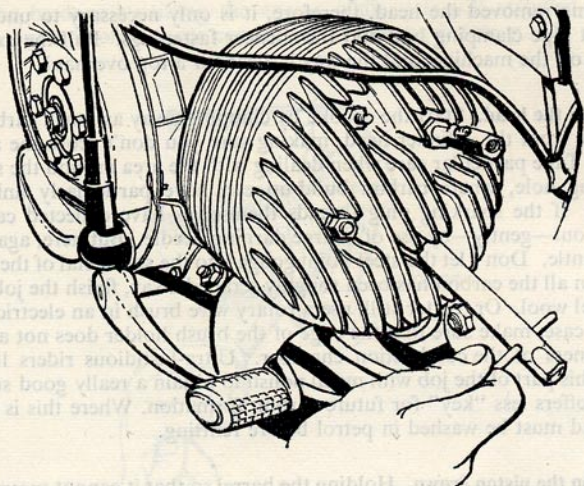

FIG. 19. HOW TO DECARBONIZE, 1
**Removing the cylinder head.** Four nuts hold the cylinder head to the barrel, and these must be detached after first loosening each one a few threads at a time, working from one to another, diagonally, across the head. Doing the job this way helps to reduce the stresses involved. When the nuts are off, slide the head away from the studs (see Figs. 19 and 20). If it sticks, don't under any circumstances attempt to lever it off by inserting a screwdriver or a rod into the joint. Instead, use a block of softwood as a "cushion." Butt one end of the block against the head and tap the other